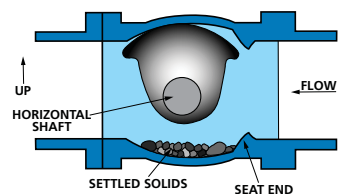
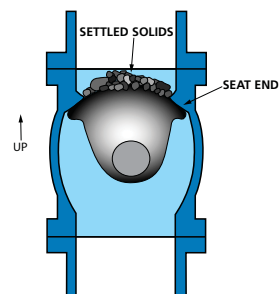

Figure 6. Horizontal Pipe w/ Solids
Figure 7. Vertical Pipe with Solids
**SUSPENDED SOLIDS SERVICE:** For fluids containing suspended solids, special orientations are needed to prevent debris from collecting in the valve. For horizontal installations (Figure 6), the valve should be installed with the flow entering the seat end of the valve and the shaft in a horizontal position with the plug up when open. For vertical installations (Figure 7), the valve must be installed with the seat end up regardless of flow direction.